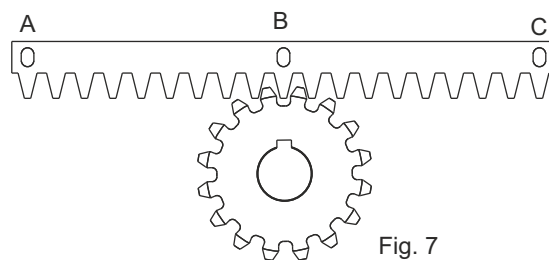
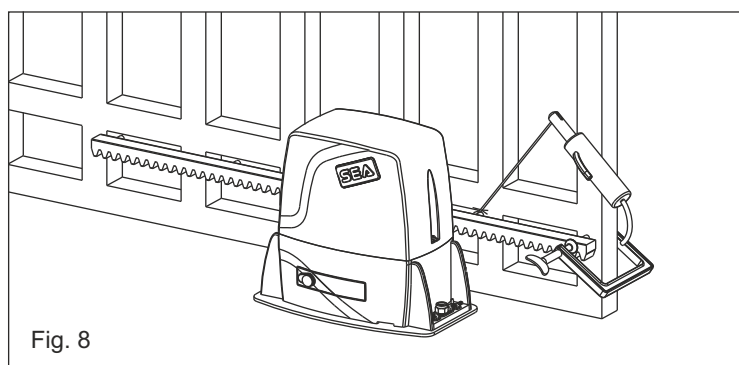

Fig. 7
Fig. 8
5.3. Lean the gear rack element on the toothed pinion of the motor in parallel to the ground sideways of the gate, as shown in Fig. 7 and electrically weld the central pawl B to the gate structure (Fig. 8).